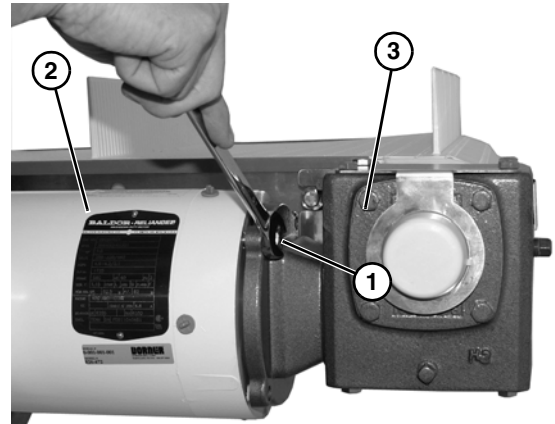

Figure 19
1. Remove four bolts (**Figure 19, item 1**) securing motor (**Figure 19, item 2**) to gear reducer (**Figure 19, item 3**).